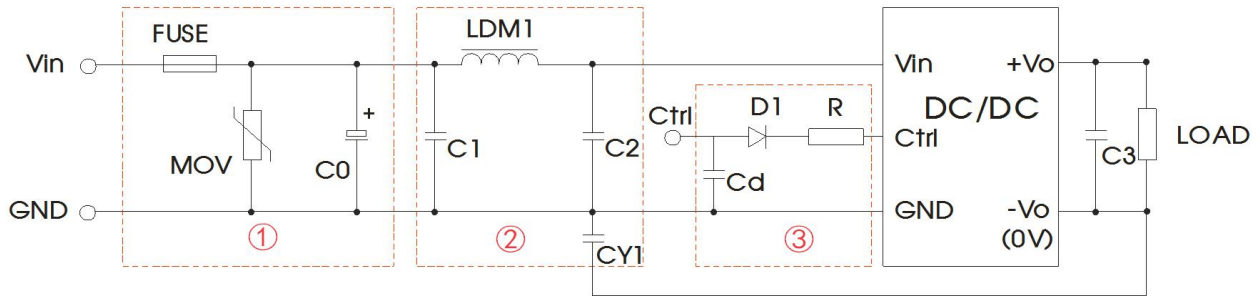

Fig. 3
- ① For EMC tests we use Part ① in Fig. 3 for immunity and part ② for emissions test. Selecting based on needs.
- ② V_C is the voltage of the Ctrl end relative to the GND of the input grounding; V_D is the positive-going conduction pressure drop of D_1 ; I_C is the current flows into the Ctrl end and its value is generally 5-10mA, see Fig. 3-③ for the peripheral circuit of Ctrl end;
- ③ If there is no recommended parameters, no external component is required.